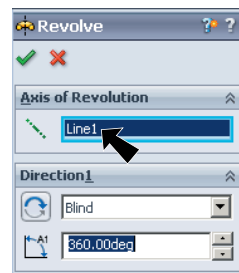

Fig. 11
Step 3. In the Revolve Property Manger, **Axis of Revolution** , **Fig. 11**,